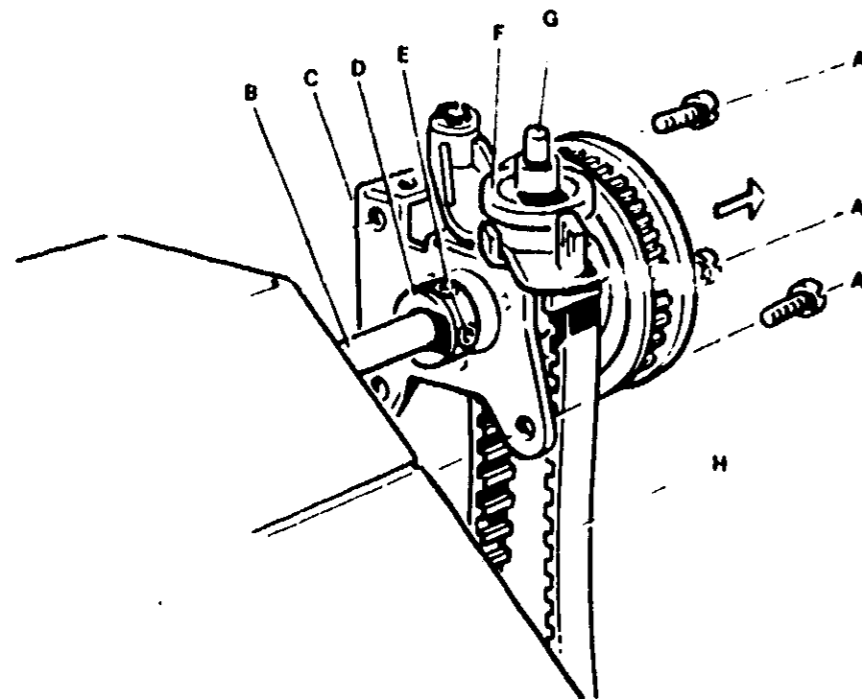

FIGURE 55
- Working on the right side of machine (Figure 55) remove screws (A) to remove support (C) from mainframe. Slip timing belt off lower shaft toothed pulley and pull out upper shaft (B) complete with bobbin winder clutch and coiled belt.
- Loosen screws (E) slightly (Figure 55) and slide retaining ring (D) and support (C) away from clutch unit.
- Slide support (C) (Figure 55) against toothed pulley and position retaining ring (D) against bushing in support (C). Tighten screws (E) securely. Be sure that support (C) has no side to side movement.
- Before tightening screws (A) securely (Figure 55) make sure that the right side support (C) of upper shaft is positioned so that the bobbin winder shaft (G) is correctly located in the corresponding slot of the bobbin winder cover plate.